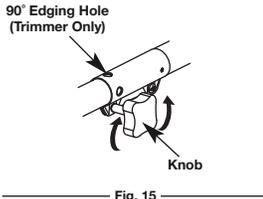

Fig. 15
1. Turn the knob counterclockwise to loosen (Fig. 15).
1. Turn knob counterclockwise to loosen (Fig. 15).
3. Turn the knob clockwise to tighten (Fig. 15).
For edging (when using the line head cutting attachment with Rapid Link™ models), lock the release button of the cutting attachment into the 90° edging hole (Fig. 15).